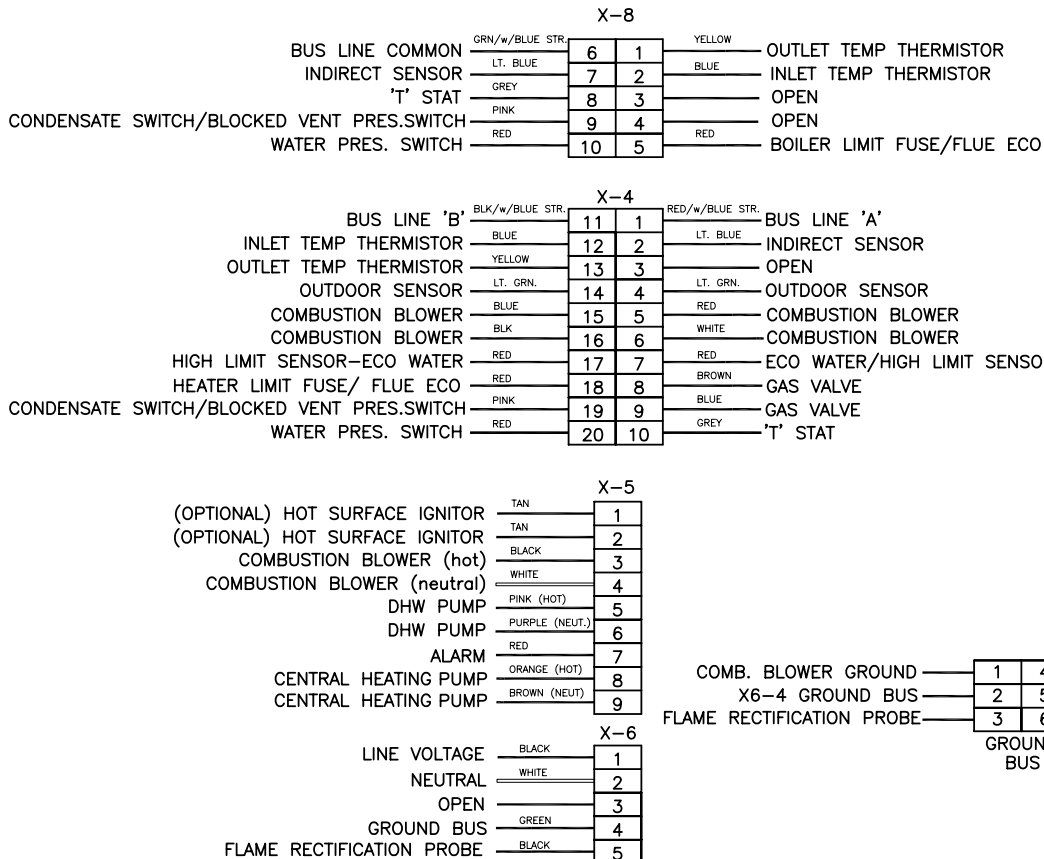

Fig. 9-5
1. Connect 120 VAC power wiring to the line voltage terminal strip located inside the electric junction box, as shown in figure 9.5.